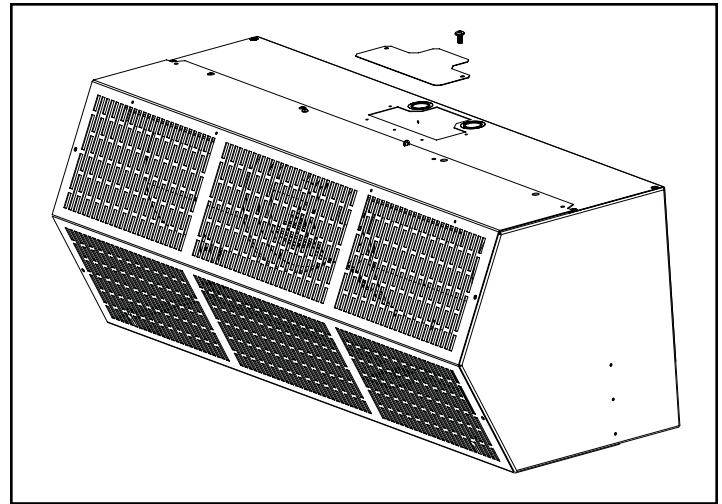

FIGURE 9
- C. Remove the wiring compartment cover on top of the air curtain. **See Figure 9.**